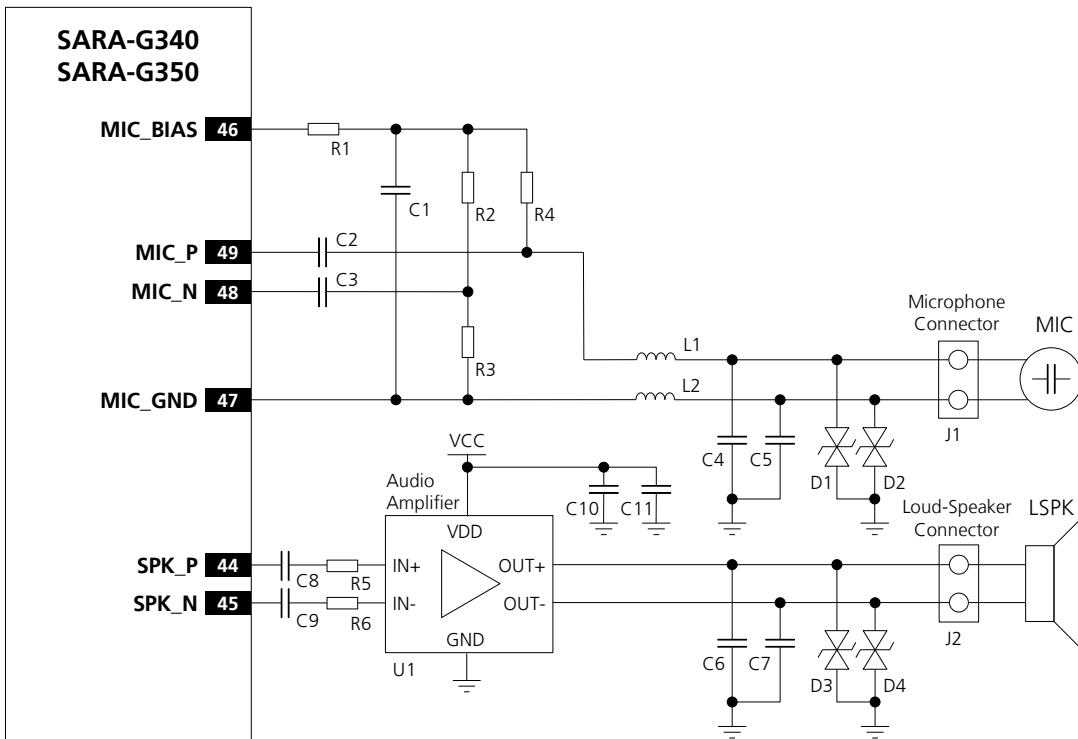

Figure 77: Analog audio interface hands-free mode application circuit
Figure 77 shows an application circuit for the analog audio interface in hands-free mode, connecting a 2.2 k Ω electret microphone and an 8 Ω or 4 Ω loudspeaker:
As in the example circuit in Figure 77, follow the general guidelines for the design of an analog audio circuit for hands-free mode:
- Provide a proper series capacitor at both **MIC_P** and **MIC_N** analog uplink inputs for DC blocking ($C2$ and $C3$ 100 nF Murata GRM155R71C104K capacitors in Figure 77). This provides a high-pass filter for the microphone DC bias with proper cut-off frequency according to the value of the resistors of the microphone supply circuit. Then connect the signal lines to the microphone.
- Mount an 82 nH series inductor with a Self Resonance Frequency ~1 GHz (e.g. the Murata LQG15HS82NJ02) on each microphone line ($L1$ and $L2$ inductors in Figure 77).
- Mount a 27 pF bypass capacitor (e.g. Murata GRM1555C1H270J) from each microphone line to solid ground plane ($C4$ and $C5$ capacitors in Figure 77).
- Provide a 47 nF series capacitor at both **SPK_P** and **SPK_N** analog downlink outputs for DC blocking ($C8$ and $C9$ Murata GRM155R71C473K capacitors in Figure 77). Then connect the lines to the differential input of a proper external audio amplifier, differential output which must be connected to the 8 Ω or 4 Ω loudspeaker. (See the Analog Devices SSM2305CPZ filter-less mono 2.8 W class-D Audio Amplifier in the circuit described in Figure 77.)
- Mount a 27 pF bypass capacitor (e.g. Murata GRM1555C1H270J) from each loudspeaker line to solid ground plane ($C6$ and $C7$ capacitors in Figure 77).
- Provide additional ESD protection (e.g. Bourns CG0402MLE-18G varistor) if the analog audio lines will be externally accessible on the application device, according to the EMC/ESD requirements of the custom application. The protection should be mounted close to an accessible point of the line ($D1-D4$ parts in the circuit described in Figure 77).